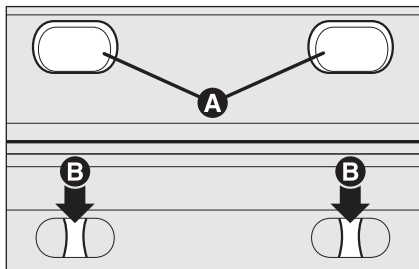
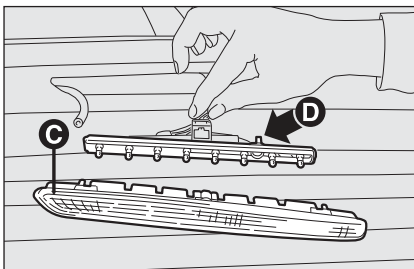

fig. 26
fig. 27
- remove the rubber caps **A-fig. 26**;
- press the catches **B-fig. 26** and remove the lens unit **C-fig. 27**;
- press in the tabs **D-fig. 27** and remove the bulb holder;